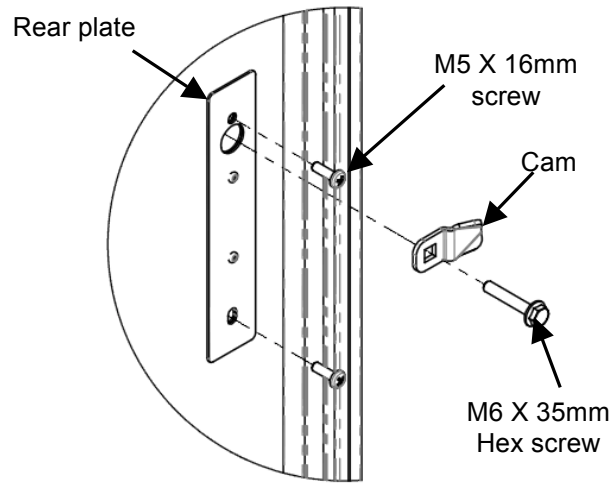

Fig. 8
3. Secure the ELS1500 lock to the rear plate using M5 X 16mm screw (Fig.8).
4. For ELS1500 push the cam onto the cam barrel and fasten it with M6 Hex screw (Fig.8).